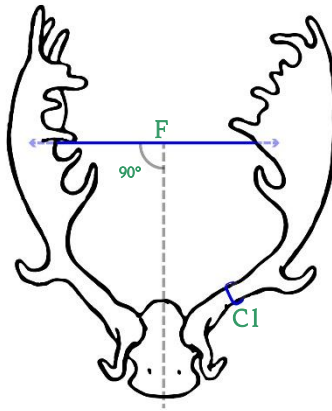

Figure 7
6. Inside Span. Measure the widest inside span of the palms at a 90-degree angle to the long axis of the skull. It can be taken anywhere as long as it does not start or end on a tine; i.e. it must start and end on the palmations. Remember also that the measurement must not only be taken at a 90-degree angle to the long axis of the skull but also parallel to a line drawn through the left and right eye sockets of the skull. In other words, the span cannot be taken by starting on the rear end of the left palm and ending on the front edge of the right palm. (Figure 7, F)